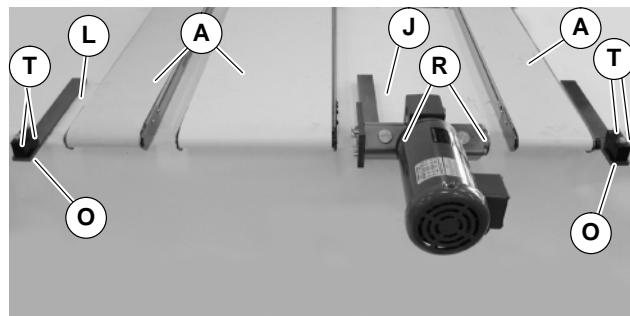

Figure 20
13. Remove screws (T of Figure 20) and remove bearing blocks (O).
14. Remove four (4) inspection plugs (R of Figure 20).